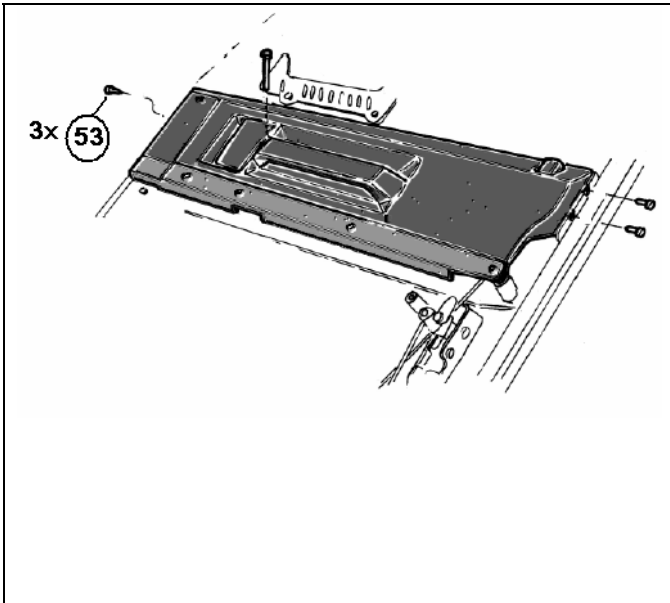

Figure 5-101. RH Door Accessories Assembly (5 of 6).
7. Reinstall the components on the door as shown in Figures 5-101 and 5-102 using the hardware removed from the armored door.